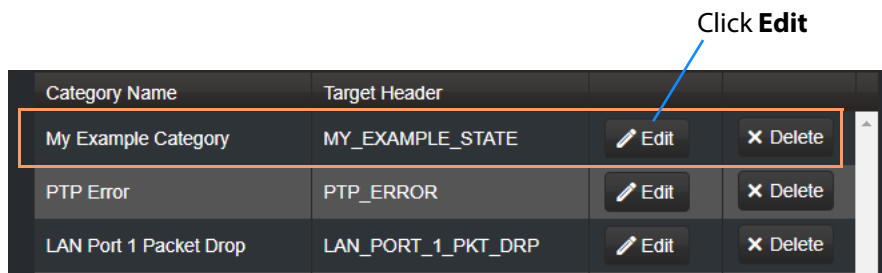

Fig. 2-9: Edit New Category
- 6 Click **Edit** to edit the new Category item. See Figure 2-9.